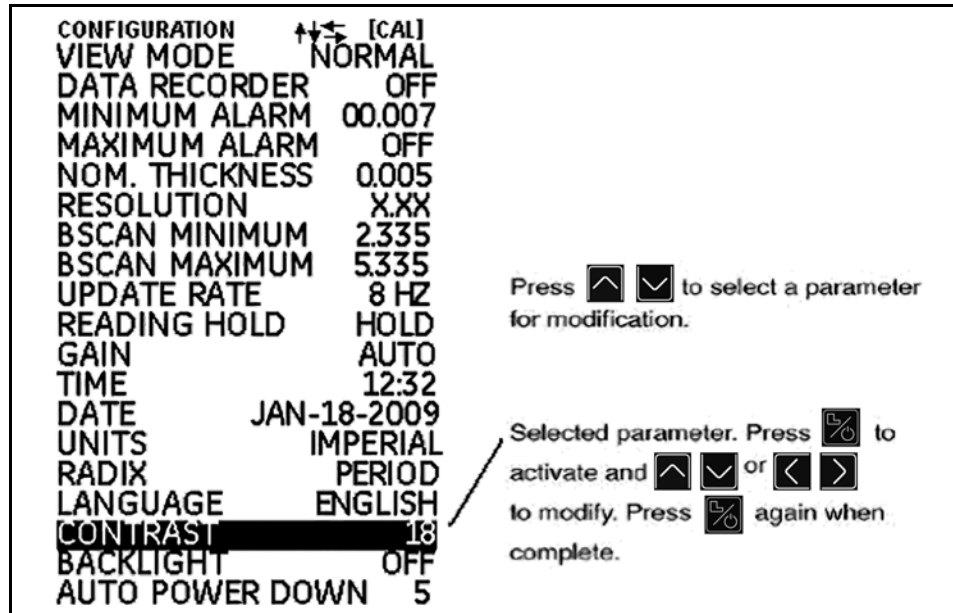

Figure 6: Configuration Display Mode
- **Configuration Display Mode** - Instrument controls are accessed through this screen. The controls listed on the configuration display screen vary depending on the installed options (see *Figure 6 on page 13*). The contents of the Configuration display depends on the instrument's installed-option configuration.